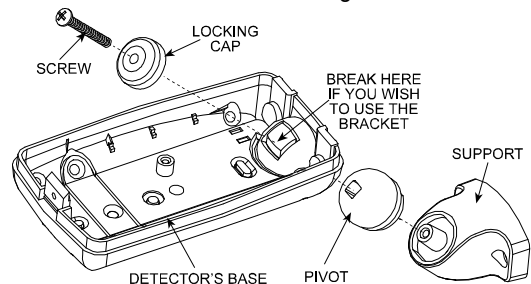

Figure 6. Attaching the Bracket
- C. Punch out the large knockout in the round bulge at the top part of the base (see Figure 6).
- D. Assemble the bracket as shown in Figure 6.